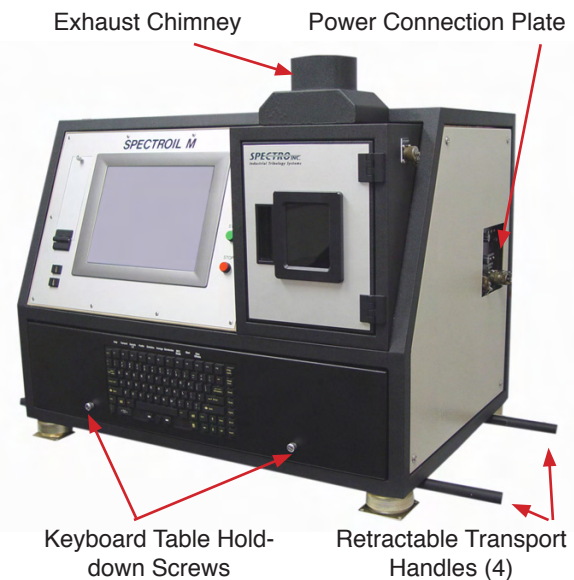
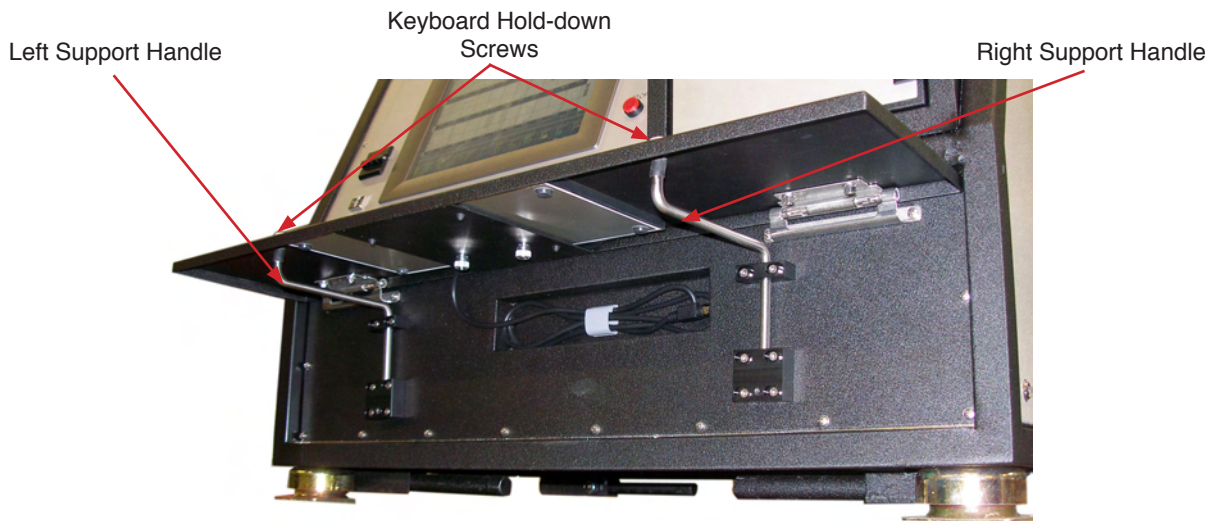

Figure 2-1, Location of Transport Handles
Figure 2-4, Keyboard Support Handles
4. Pull out and fully extend the four (4) transport handles which are located near each of the four bottom corners of the spectrometer. Refer to Figure 2-1.
14. To use the retractable keyboard, loosen the two hold-down screws, Figure 2-1, by turning them counter-clockwise. Swing the keyboard up until it is level. Turn the two support handles located under the keyboard, Figure 2-4, until they line up with the
The exhaust fan in the Spectroil M is inside a chimney which is located above the sample stand. Refer to Figure 2-1. An exhaust duct must be connected to the chimney to ventilate the fumes to the outside environment. Up to 20 feet (6 meters) of standard (USA) 4 inch (10 cm) flexible exhaust duct is recommended. In order to maintain ample airflow, it is recommended that the length of this exhaust duct not exceed 20 feet (6 meters). For greater distances, an additional fan may be required to provide supplemental air flow.
10. Secure the keyboard by loosening the two keyboard hold-down screws, Figure 2-4, swing the support handles towards the outside of the instrument, fold down the keyboard and tighten the hold-down screws.